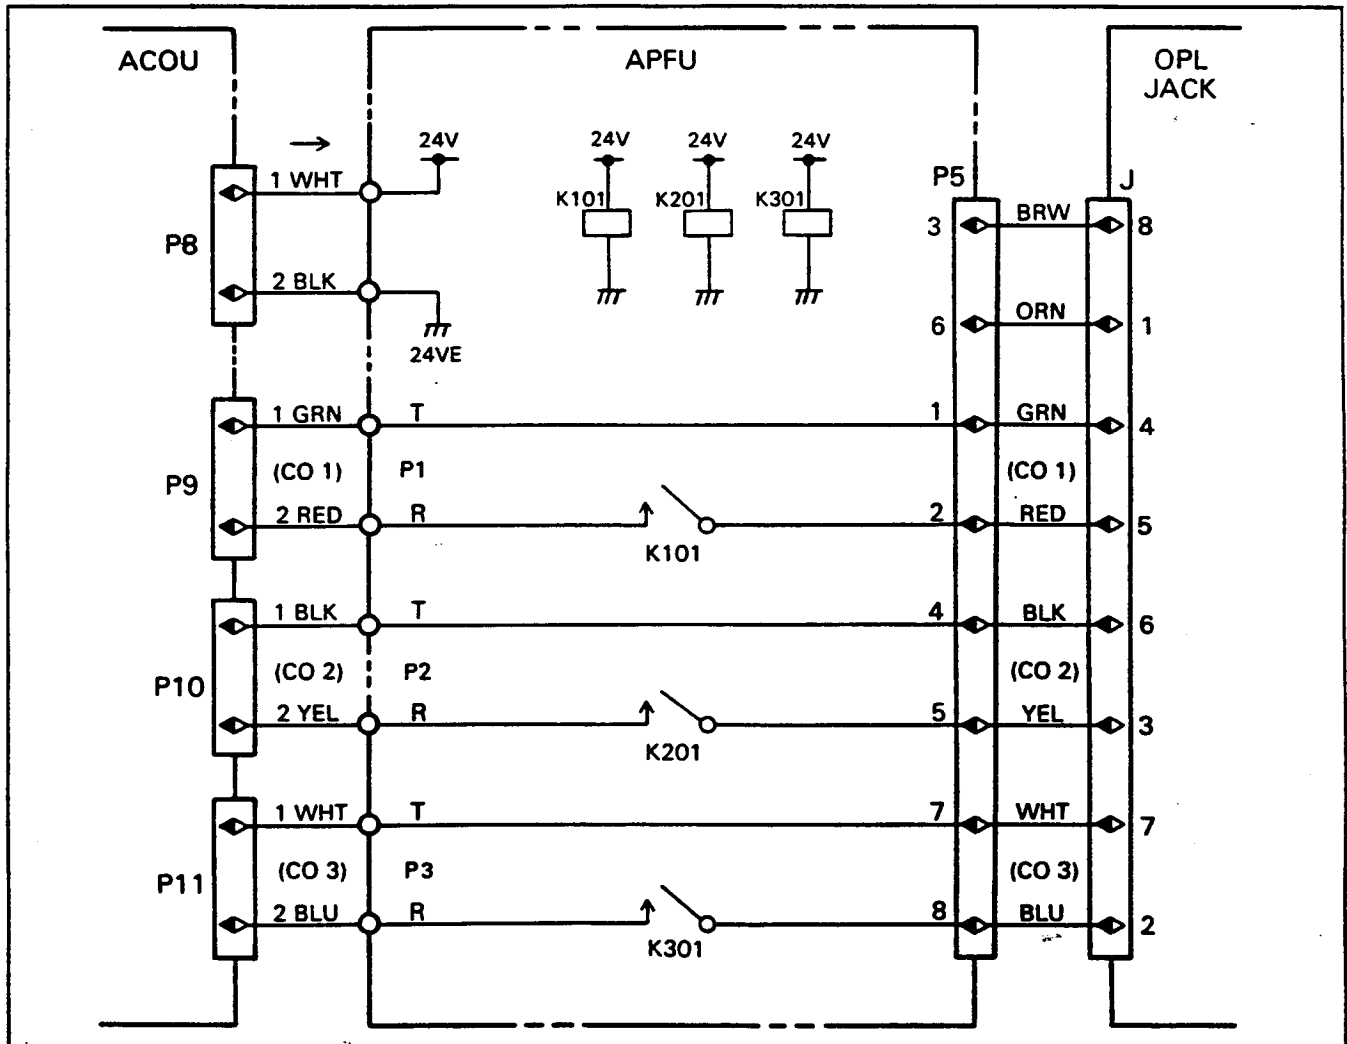

FIGURE 33—POWER FAILURE TRANSFER DIAGRAM
13.53 A simplified diagram of the power failure transfer feature is shown in Figure 33.